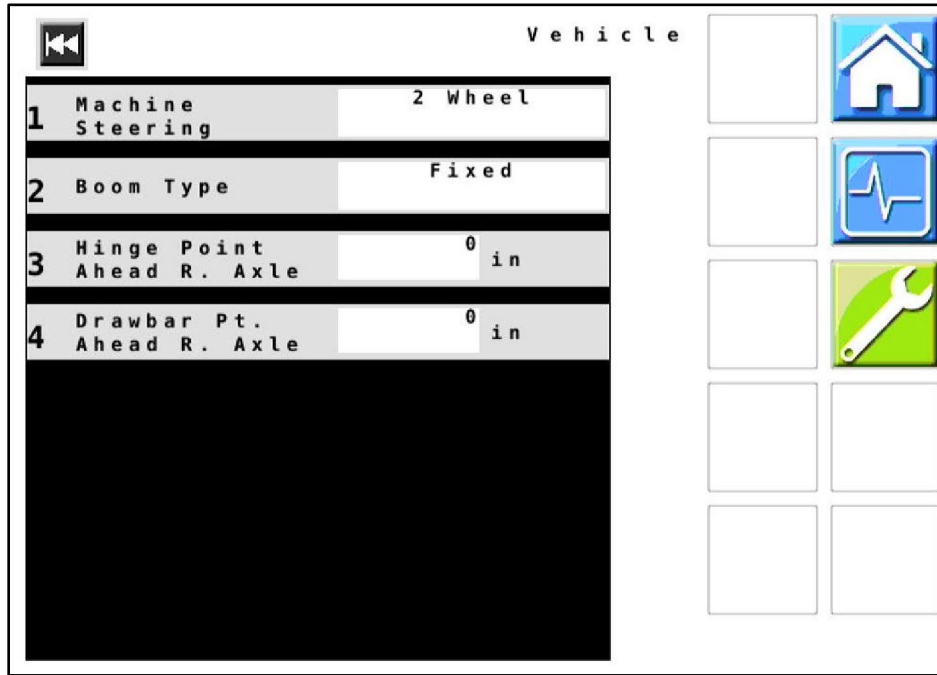

Figure 20 — Vehicle
35. **Figure 20:** Verify that all values displayed on your unit match those shown here. Change values if necessary.